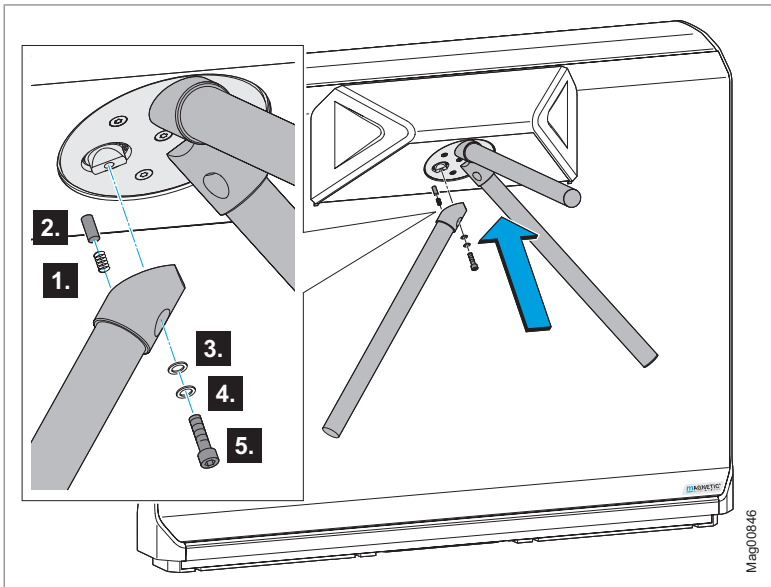
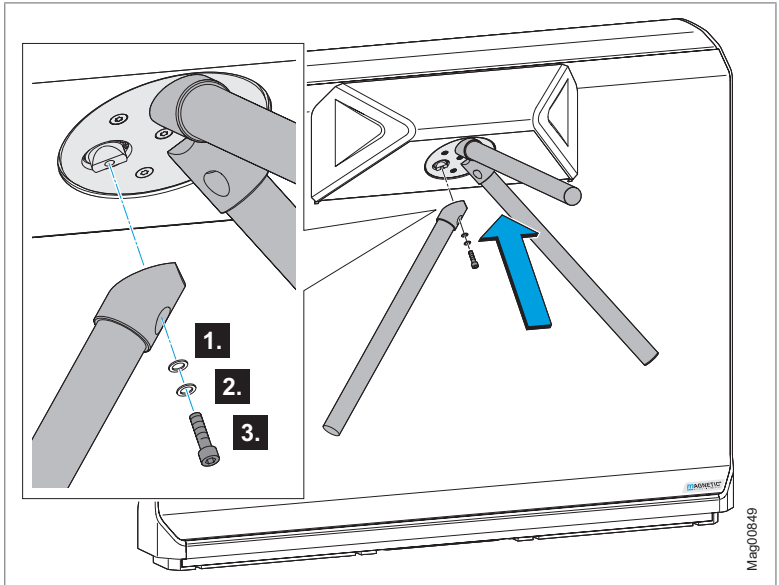

Fig. 14: Assembly of the blocking arms with drop arm function
Fig. 15: Assembly of the blocking arms without drop arm function
➤ Page 40, Fig. 14.
➤ Page 41, Fig. 15.
2. Disassemble blocking arms. ↗ Page 40, Fig. 14 or Page 41, Fig. 15.